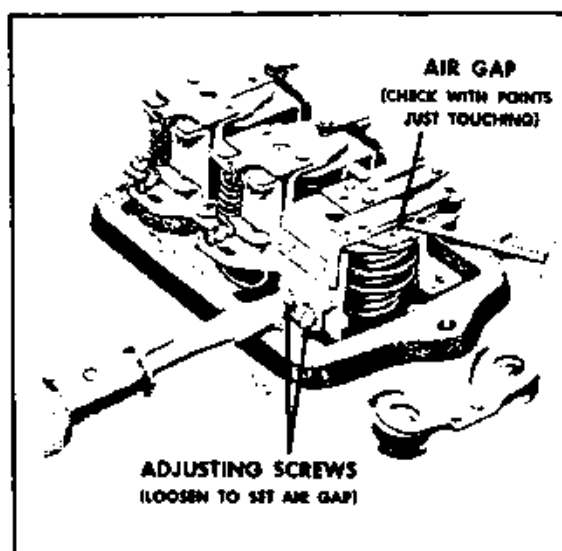

Figure 11-10. Cutout Relay Air Gap Check and Adjustment
a. **Air Gap:** Place fingers on armature directly above core and move armature down until points just close and then measure air gap between armature and center of core. (Refer to Figure 11-10.) On multiple contact point relays, make sure that all points close simultaneously. If they do not, bend spring finger so they do. To adjust air gap, loosen two screws at the back of relay and raise or lower the armature as required. Tighten screws after adjustment.